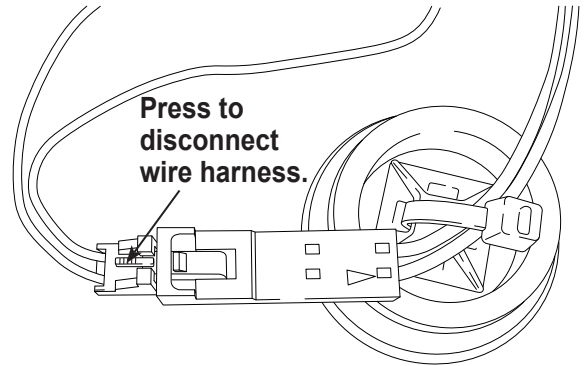

Figure 14
6. Disconnect the wire harness at the connector by pressing on the center tab. Pull the connectors apart. See Figure 14.